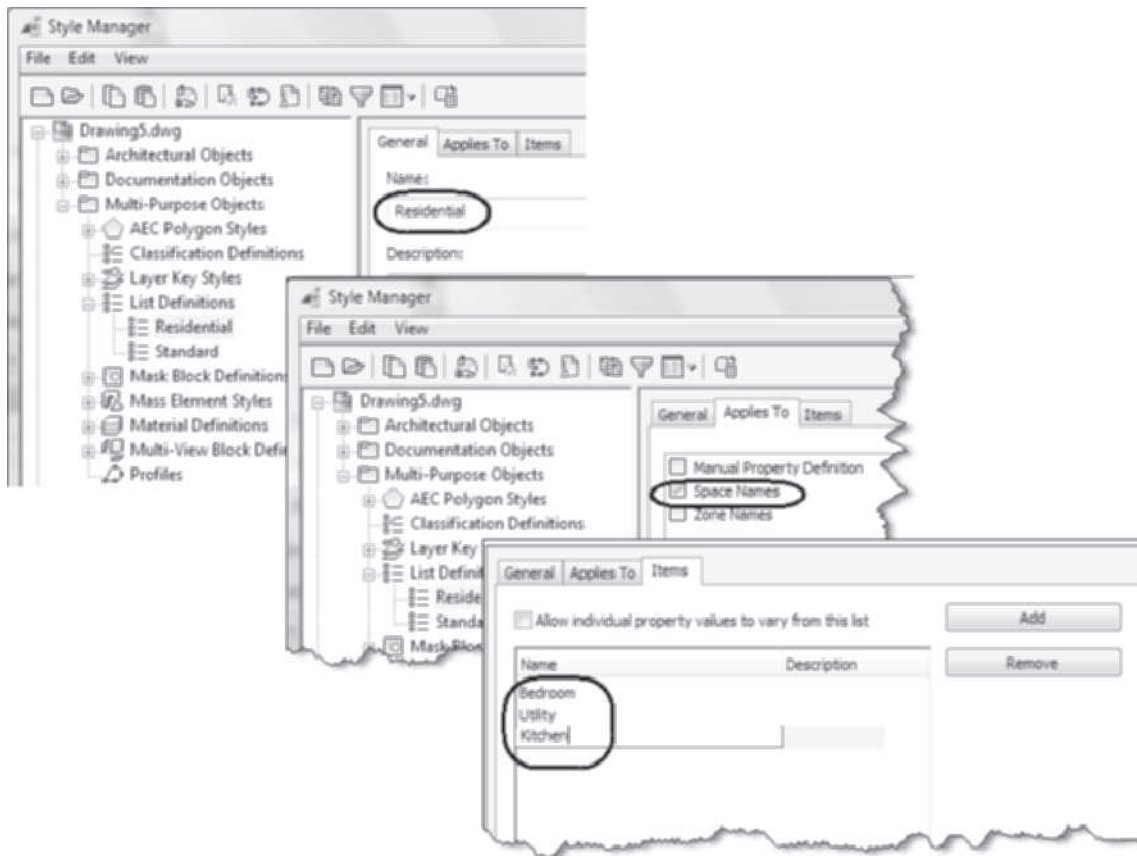

FIGURE 4.34 Creating list definitions
3. Choose the **General** tab of the right pane as shown in Figure 4.34 and overwrite the name of the new list in the **Name** field.
5. Choose the **Items** tab of the right pane. Click the **Add** button as shown at the right in Figure 4.34. Edit the name column of each name for the list.